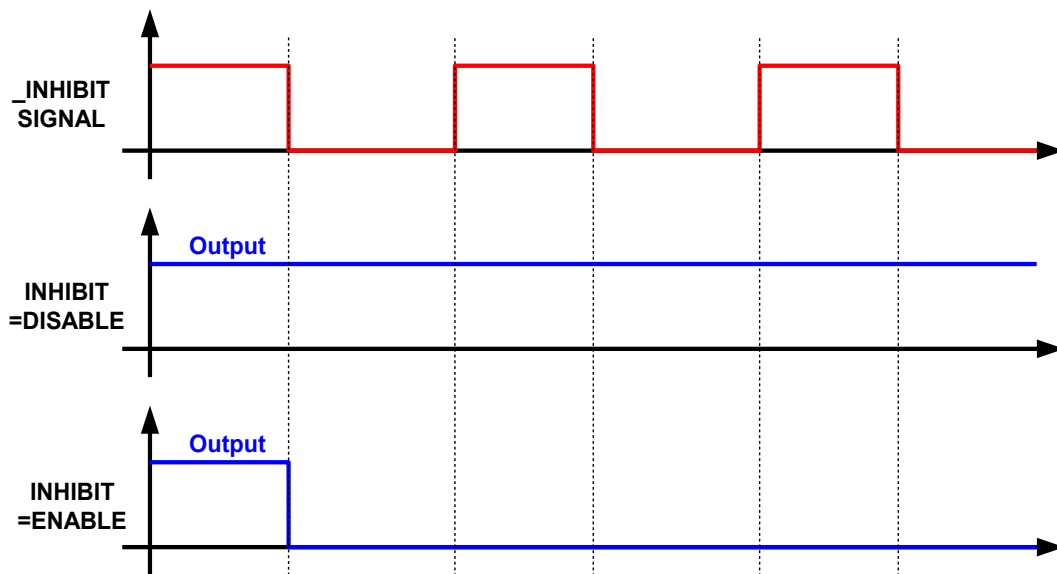

Figure 3-101
5. When the DC power supply is set to OUTPUT = ON, the detailed actions of REMOTE INHIBIT are shown in Figure 3-101.